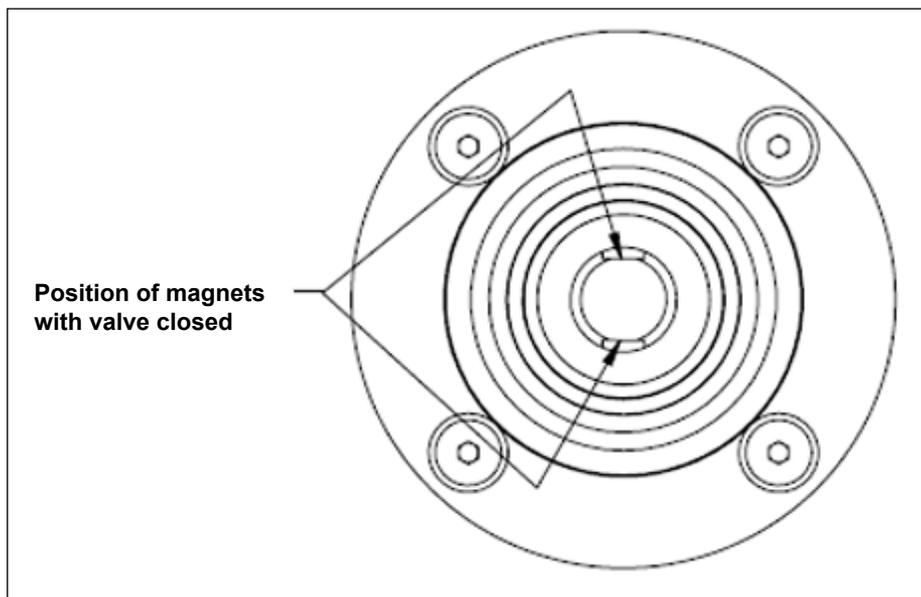

Figure 30 - Magnet Position with Valve Closed
5. Ensure the turnbuckle assembly is parallel to the stem and the magnets are in the valve closed position (Figure 30) and connect to take-off bracket.